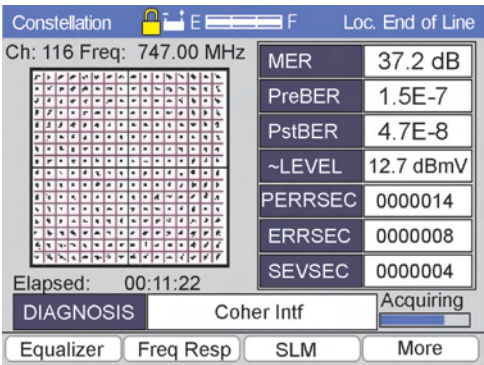

Figure 4-38
**AUTO DIAGNOSIS** - All downstream detail screens including the Cable Modem downstream, contain an auto-diagnosis function as seen in Figure 4-38. This patent pending function will automatically diagnose QAM impairments and report them in the DIAGNOSIS window (lower portion of the screen). The CM1000 will auto diagnose impairments including phase noise, coherent disturbances, intermittent interference (and laser clipping) and compression.